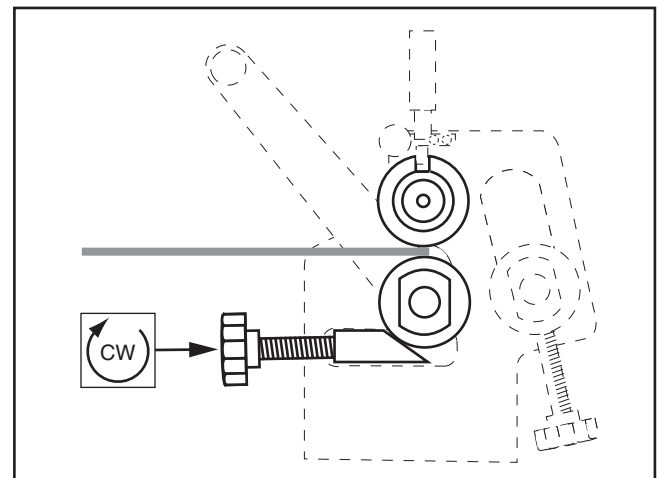

Figure 22. Raising lower roller.
3. Place workpiece between upper and lower rollers, as shown in **Figure 22**. Turn thickness adjustment knobs to raise lower roller until workpiece is held snugly between upper and lower rollers. Make sure to turn knobs equal amounts so lower roller is parallel with upper roller.